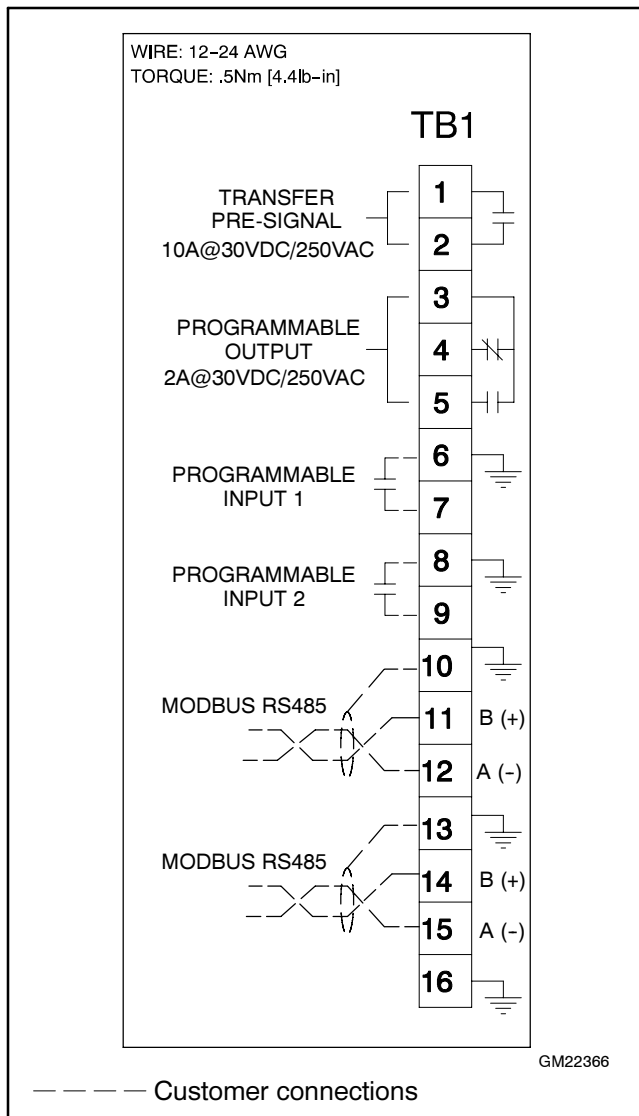

Figure 6-2 Terminal Strip TB1 Connections
3. Connect the Modbus® input and output to the terminals shown in Figure 6-2. Use #12-24 AWG twisted-pair shielded cable; Belden cable #9841 or equivalent is recommended. Connect A to negative (-), B to positive (+), and the shield to ground as shown in Figure 6-2.